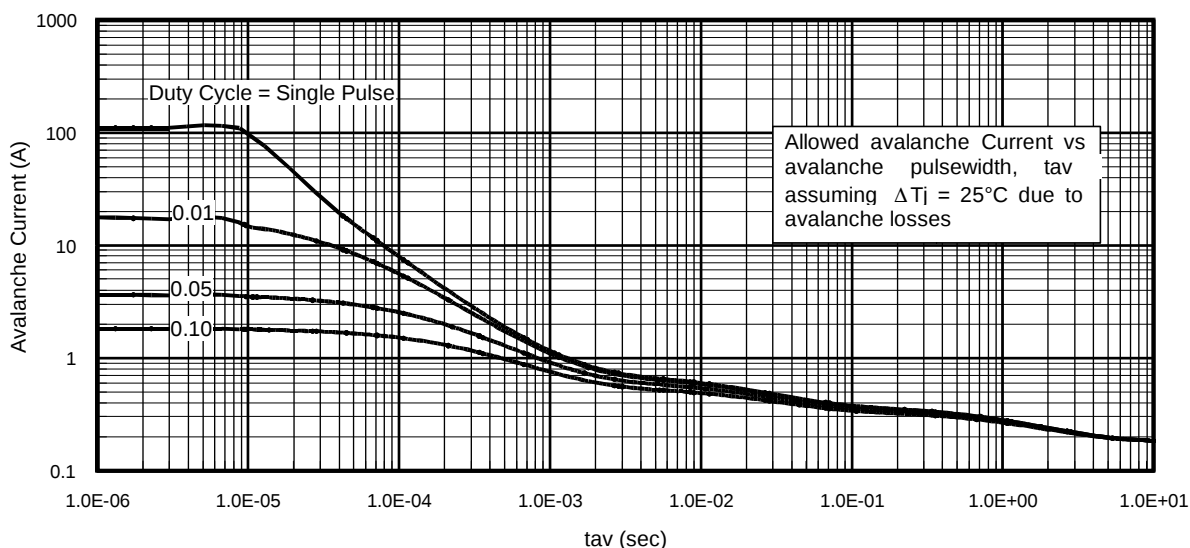

Fig 14. Typical Avalanche Current Vs. Pulsewidth
Notes on Repetitive Avalanche Curves , Figures 14, 15: (For further info, see AN-1005 at www.irf.com)
7. ΔT = Allowable rise in junction temperature, not to exceed T_{jmax} (assumed as 25°C in Figure 14, 15).
- ① Repetitive rating; pulse width limited by max. junction temperature.
- ② Starting $T_J = 25^\circ\text{C}$, $L = 1.5\text{mH}$, $R_G = 25\Omega$, $I_{AS} = 13\text{A}$.
- ③ Pulse width $\leq 400\mu\text{s}$; duty cycle $\leq 2\%$.
- ④ R_θ is measured at T_J of approximately 90°C .
- ⑤ Limited by T_{Jmax} . See Figs. 14, 15, 17a, 17b for repetitive avalanche information.